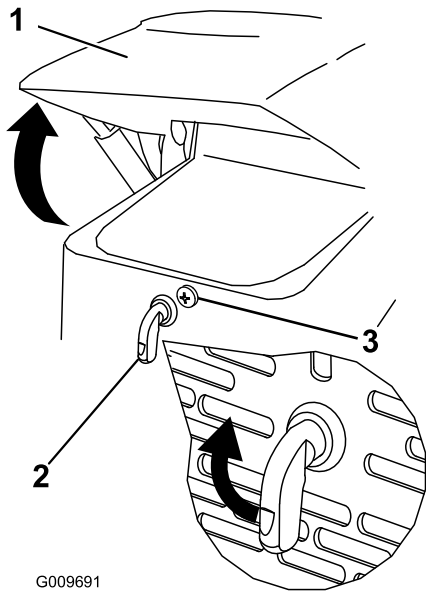

Figure 27
1. Loosen the hood-locking screw (Figure 27)
2. Turn the hood latch clockwise (Figure 27).
3. Swing the hood up (Figure 27).
3. Tighten the hood-locking screw to secure the latch (Figure 27).